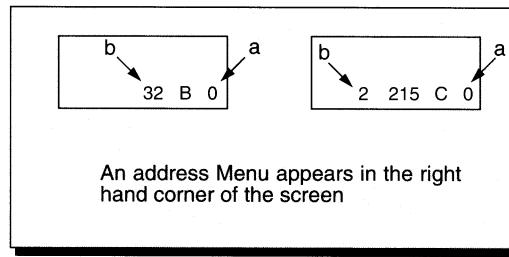

Figure 15. **Serviceman Mode Menu Adjustments.**
**Note:** Only the applicable settings for the Receiver serviced will be available (See **a** in Fig. 15).
1. Press Channel Up/Down on the **Remote Control** to select one of the available Service Adjustments (**a** in Fig. 15).
**Note:** Write Down the original value set (**b** in Fig. 15) for each address before modifying anything. It is easy to erroneously adjust the wrong item.
2. Press Volume Up/Down on the **Remote Control** to adjust the level of the selected Service Adjustment (**b** in Fig. 15).
1. Press Channel Up/Down on the **Remote Control** to select one of the available Service Adjustments (a in Fig. 15).
**Note:** Write Down the original value set (b in Fig. 15) for each address before modifying anything. It is easy to erroneously adjust the wrong item.
2. Press Volume Up/Down on the **Remote Control** to adjust the level of the selected Service Adjustment (b in Fig. 15).